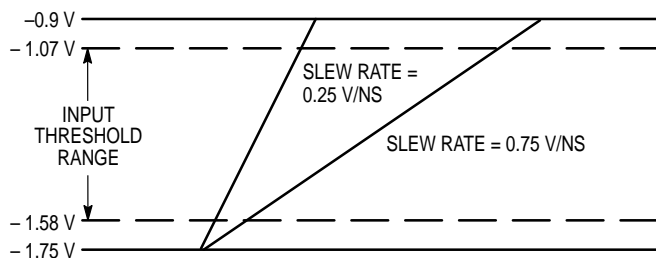

Figure 4. ECL Dispersion Test Input Conditions
3. Refer to figure 4 and note that the input is at 850mV ECL levels with the input threshold range between the 20% and 80% points. The delay is measured from the crosspoint of the input signal and the threshold value to the crosspoint of the Q and  $\bar{Q}$  output signals.
Figure 4 and Figure 5 define a range of input conditions which incorporate varying input slew rates and input voltage overdrive. For input parameters that adhere to these constraints the propagation delay can be described as: